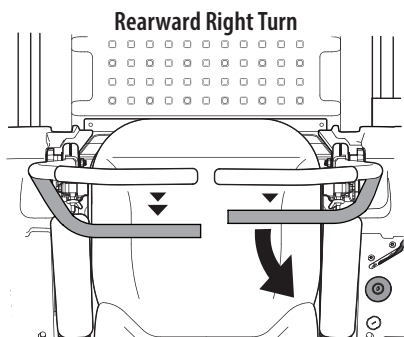

Figure 31
2. To turn to the right while traveling in reverse, move the right drive control lever forward of the left lever (Figure 31).